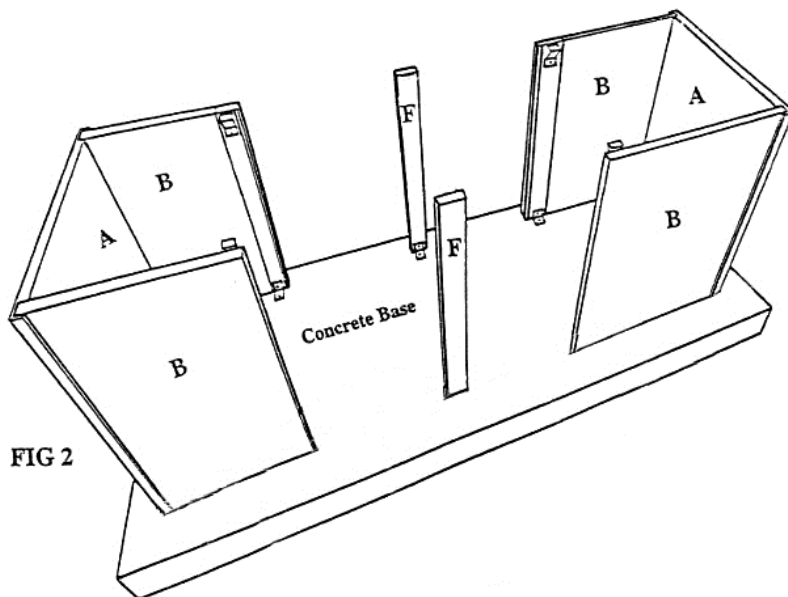

FIG 2
2. Using four (4) hexhead screws for each section assemble each "A-B" (end and side) sections thru holes provided. Set on marked concrete base (FIG 2).